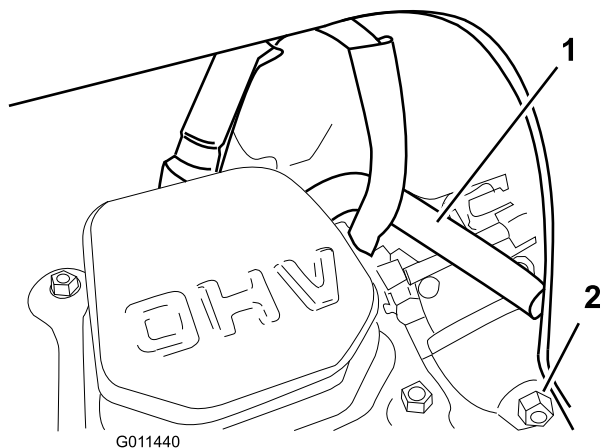

Figure 35
Note: Ensure that the breather tube is routed above the spark-plug wire as shown in Figure 35.
6. Drain the fuel in the carburetor through the carburetor-drain bolt (Figure 35) into an approved gasoline container.